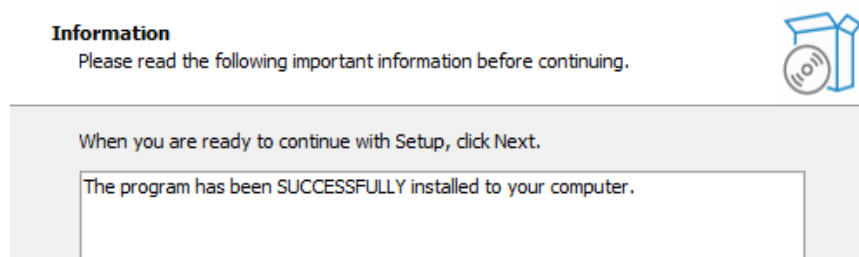

Figure 2.5: Successful Installation of the Doric Neuroscience Studio
6. When ready, click **Install** to begin the process. This should take a few moments. When the installation is done, the message in figure 2.5 will show up.